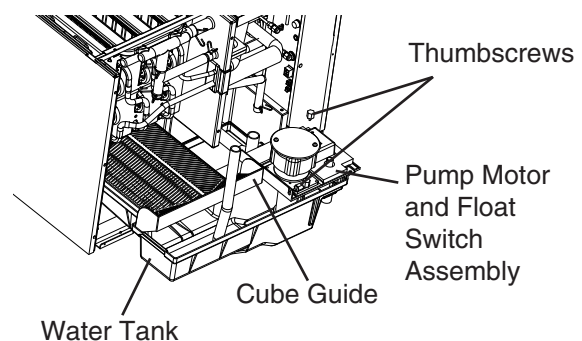

Fig. 11
- d. Remove the 2 thumbscrews securing the pump motor and float switch assembly. See Fig. 11.
- 11) Replace insulation panel (A) and the front panel in their correct positions.